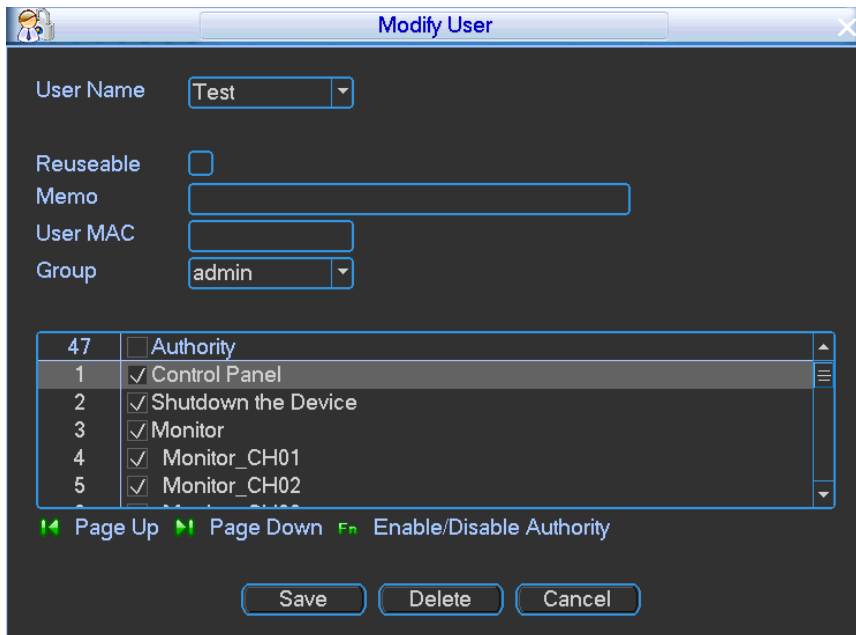
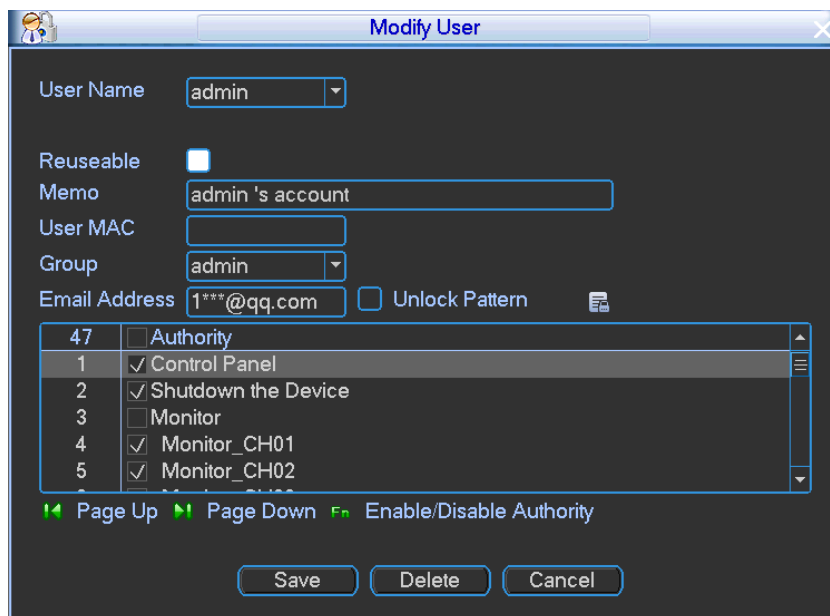

Figure 4-87
Figure 4-88
Select a user and then click Modify user button, enter Modify user interface. See Figure 4-87 or Figure 4-88 (**admin**).
- For **admin**, you can change the email address information you set during initialization process, or check the unlock pattern box to change unlock pattern, See Figure 4-88